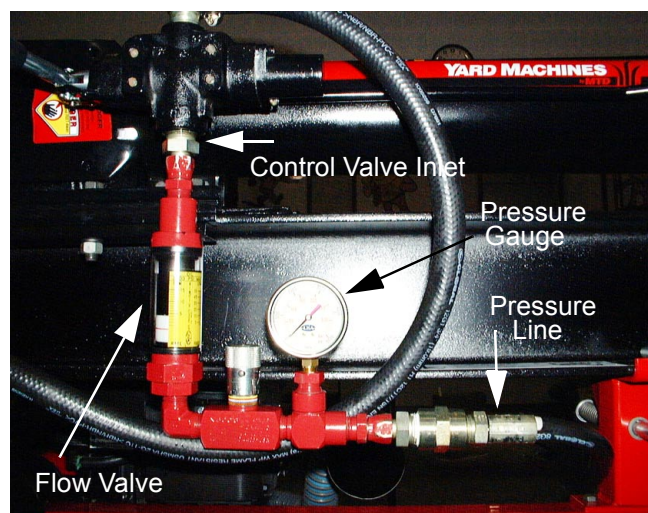

Figure 2
- Secure the male union to the flow meter connector using a 1-1/8" wrench and a 7/8" wrench. \_\_\_\_ See Figure 2.